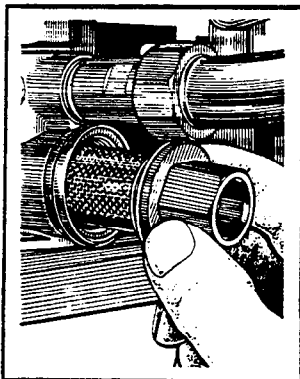

Fig. 20
- Take out the head of the valve with the filter (fig. 20).